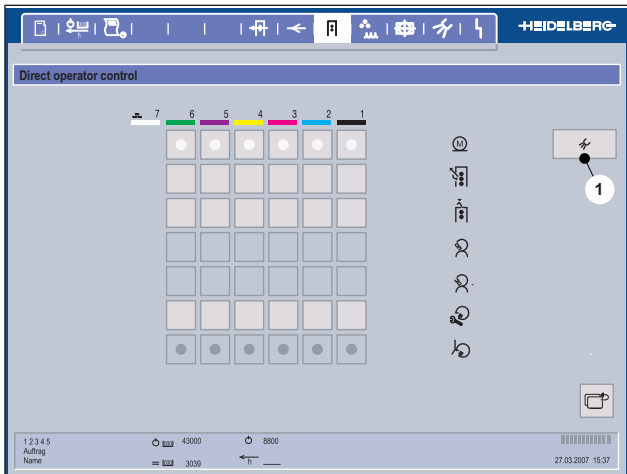

Fig. 75 Direct operator control menu
1. On the control console, select the *Washup* button (Fig. 75/1) in the **Direct operator control** menu.